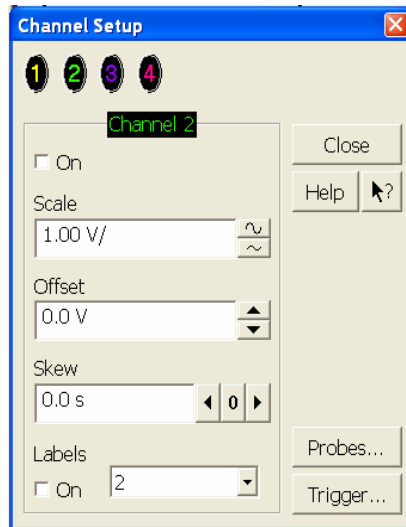

Figure 18 Channel Dialog Box
- In the Channel Setup dialog box, select the Probes... button, as shown in Figure 18.